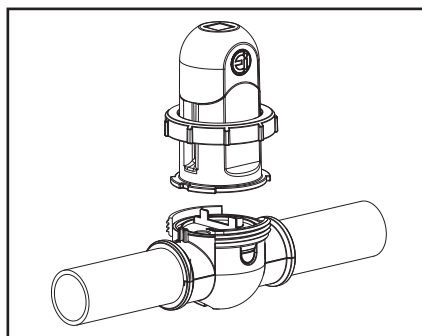

Figure 28. Remove the Cell
5. Remove the cell (see Figure 28).